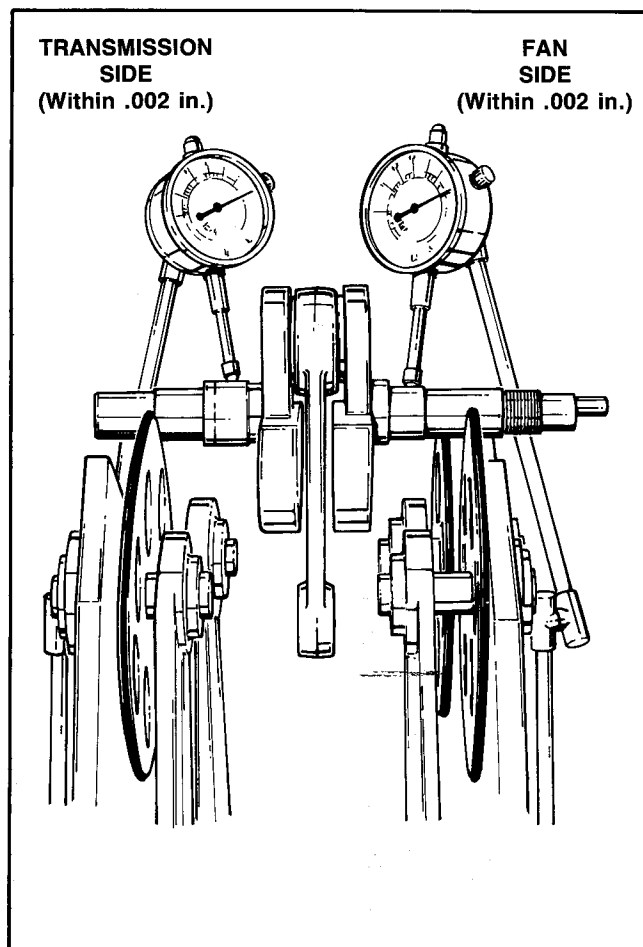

Figure 61 – Crankshaft Runout
- See Figure 61. Using a truing device and dial indicators as shown, check shaft.